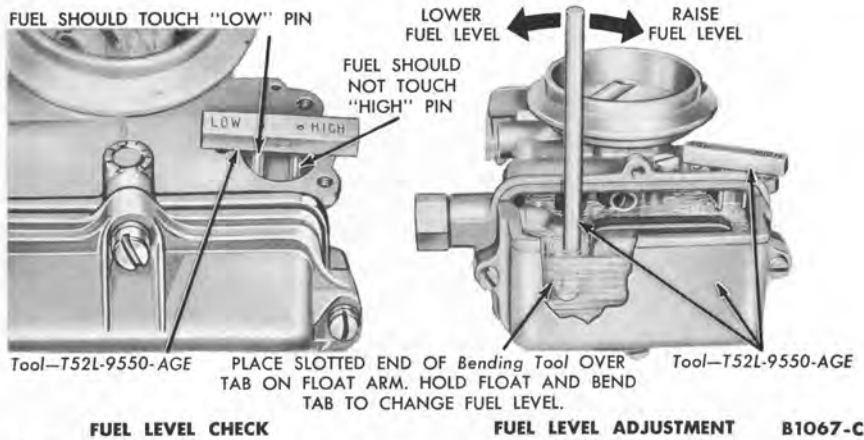

FIG. 13—Fuel Level Check and Adjustment—1960 and 1961 Models
2. Place the fuel gauge in the opening and crank the engine. The fuel should touch the tip of the low gauge pin for the maximum fuel level setting. The fuel should never be higher than the tip of the low gauge pin (Fig. 13).
3. Install the dummy bowl, using the fuel bowl gasket and three of the retaining screws (Fig. 13). Position a suitable container under the carburetor to collect any spill-over of fuel. To adjust the fuel level, bend the float arm tab. Crank the engine and recheck the fuel level.